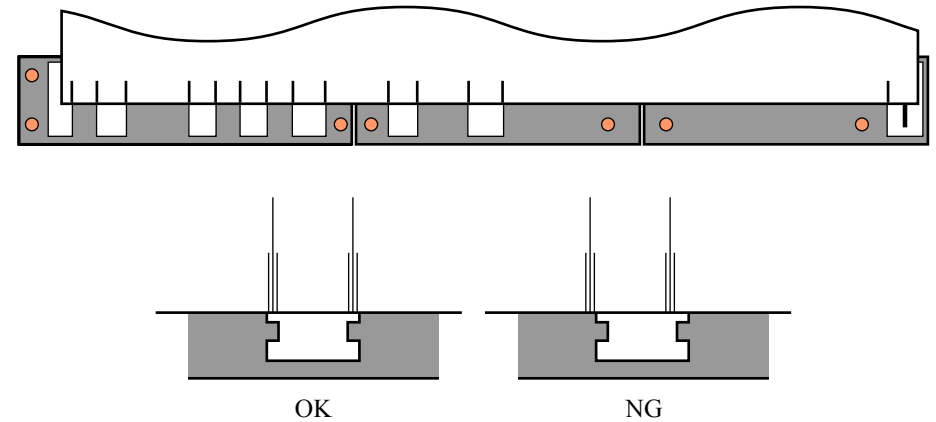

Figure 5-56. Adjustment Pattern
2. Check if the printed lines align with the edge of the platen tabs holding down the Ink Pad as shown in Figure 5-56. If it does, click the [Finish] button. If the lines are not in proper alignment with the platen tabs, click the [Back] button to perform the adjustment again.